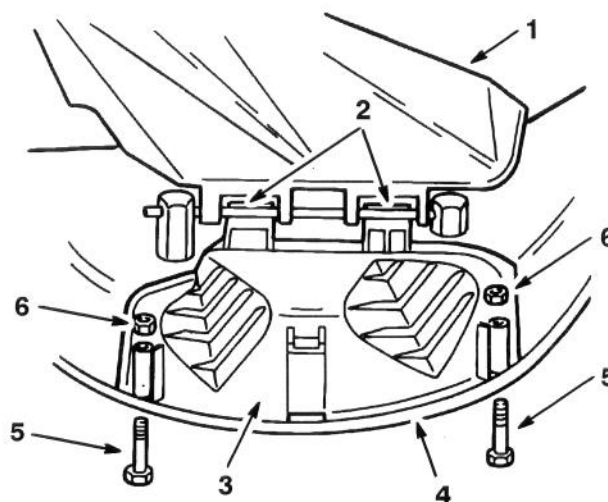

Figure 6
1. Lift the grass deflector and slide the tabs on top of the discharge cover under the grass deflector retaining rod. Rotate the discharge cover down over the opening, and onto the lower lip of the mower (Fig. 6).
2. Secure the discharge cover to the lower lip of the mower with 1/4–20 x 2 3/4" bolts and 1/4–20 nuts (Fig. 6).